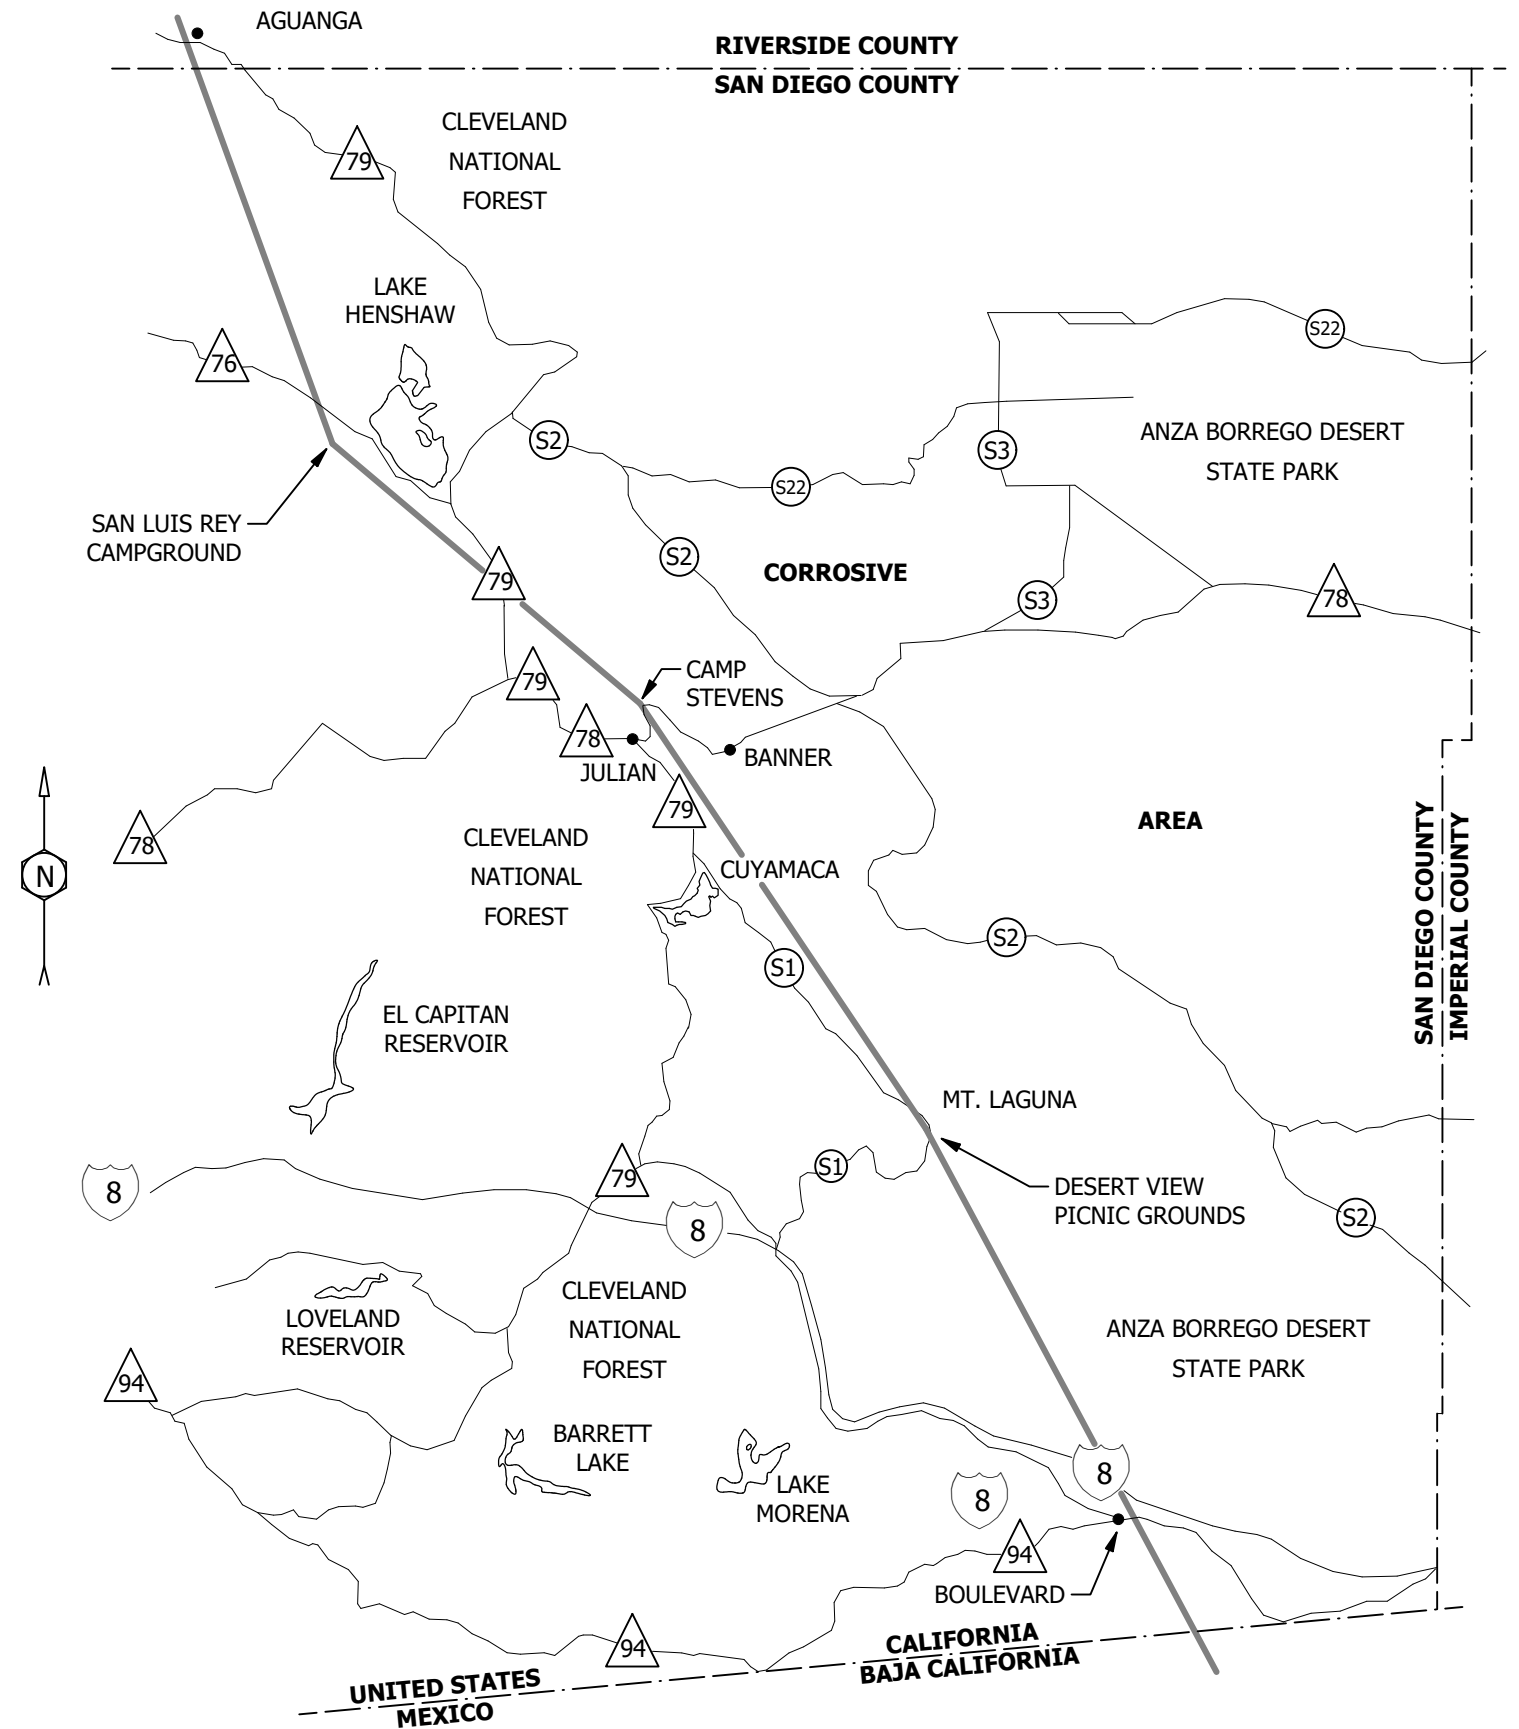

FIGURE 3
- (A) EYE OF ANCHOR ROD SHALL BE INSTALLED 12 INCHES ABOVE GROUND LEVEL IN AREAS WHICH HAVE DRIFTING SAND, ELSEWHERE 6 INCHES IS SUFFICIENT.
- (B) PROTECTED ANCHOR PLATES AND ANCHOR RODS ARE FURNISHED SEPARATELY BY STOREROOM. THE PLATES ARE EPOXY COATED AND THE RODS ARE PROTECTO TAPE WRAPPED. THEY WILL BE ISSUED AS A KIT, TO BE ASSEMBLED AT THE JOB SITE.
- (C) ANCHOR PLATE TO BE DOUBLE NUTTED ON ROD.
- E. AREAS HAVE BEEN DECLARED "CORROSIVE" AS A RESULT OF OPERATING EXPERIENCE. PROTECTED ANCHORS ARE REQUIRED IN THE CORROSIVE AREA EAST OF THE LINE ON **FIGURE 3**. PROBLEM AREAS HAVE ALSO BEEN OBSERVED IN THE METRO, BEACH CITIES, AND NORTH COAST OPERATING DISTRICTS. AS THESE AREAS ARE DEFINED, THEY WILL BE ADDED TO THE MAP AND IDENTIFIED AS CORROSIVE POCKETS.
- (F) ONLY UNSECTIONALIZED ANCHOR GUYS THAT ARE EXPOSED TO 22.5KV OR MORE ARE REQUIRED TO BE GROUNDED (SEE G.O. 95, RULE 56.6-D). IF GROUNDING IS REQUIRED ON PROTECTED CROSSPLATE ANCHORS, REFER TO DRAWING TB 3204.0, AVAILABLE FROM TRANSMISSION ENGINEERING. (a)